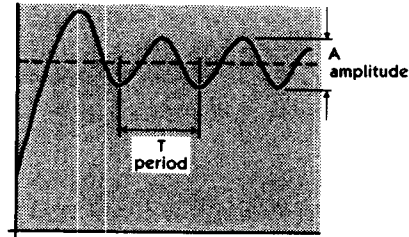

Figure 4-1. Simplified Tuning Method
3. Switch ON and allow process to stabilize. Monitor process temperature, ideally using a chart recorder, or alternatively by taking readings from the display at regular intervals, as frequently as possible. The results should look similar to Figure 4-1.
4. Using the figures obtained for the oscillation period (T) seconds and amplitude (A) degrees (see Figure 4-1), the following parameter values can be calculated: